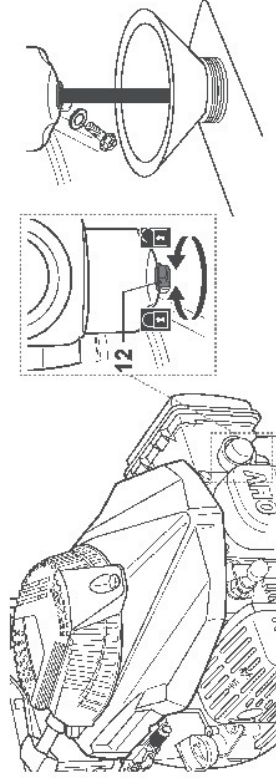

Fig. 20
2. Place a suitable container under fuel drain screw (12) to collect drained fuel.
3. Unscrew the fuel drain screw and let the fuel run into the container (Fig. 20).